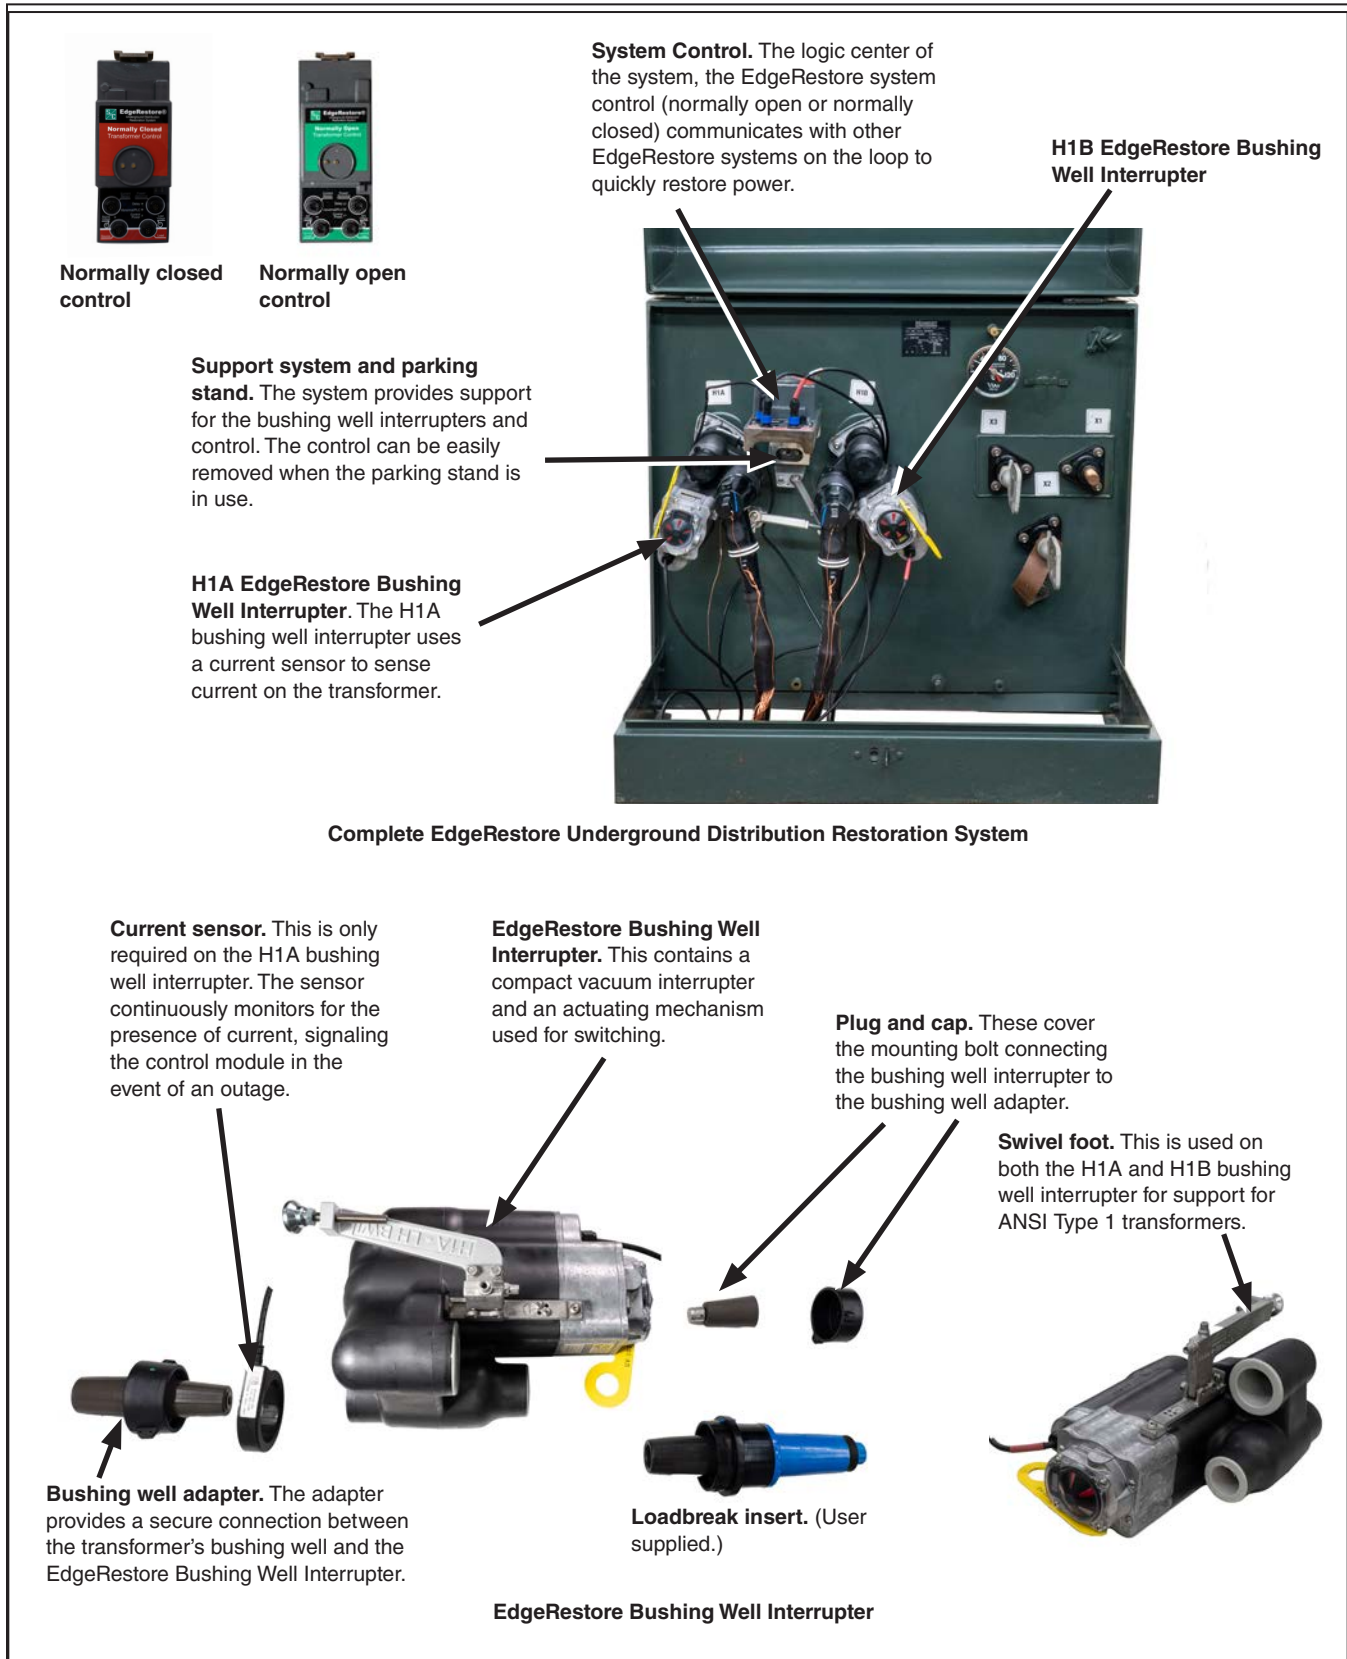

Figure 1. EdgeRestore Underground Distribution Restoration System Overview.
Become familiar with the parts of the installation. A completed installation is shown in Figure 1 on page 8.
STEP 3. Clean the bushing well adapters for the H1A and H1B bushings with a soft cloth. The bushing well adapters are included in the installation kit. They look like loadbreak inserts but are shorter and gray. See Figure 1 on page 8.